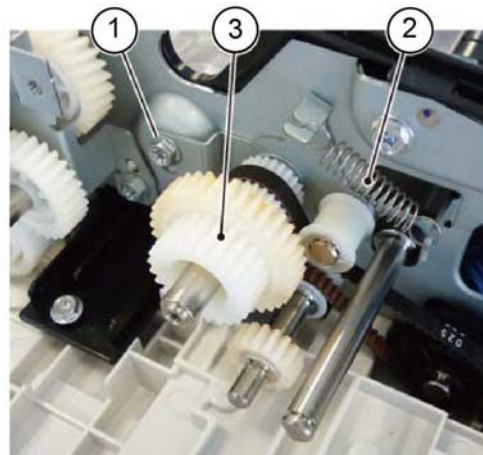

Figure 4 Gear pulley removal
11. Remove the gear pulley, **Figure 4**:
- Loosen the screw (1).
- Remove the tension spring (2).
- Remove the gear pulley (3).